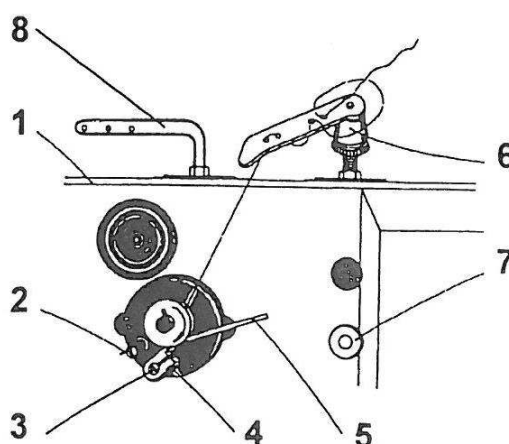
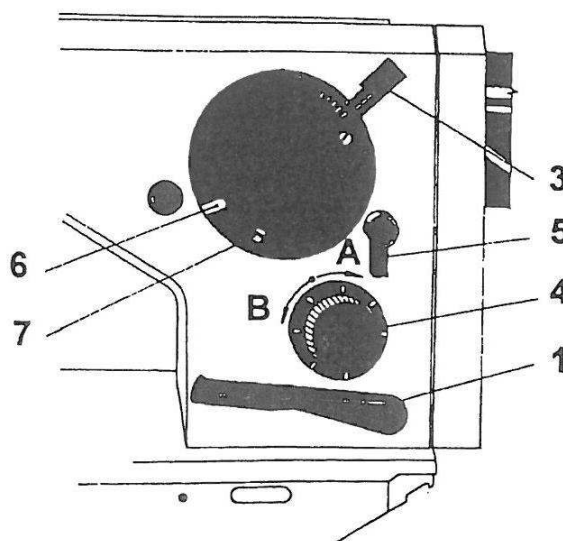
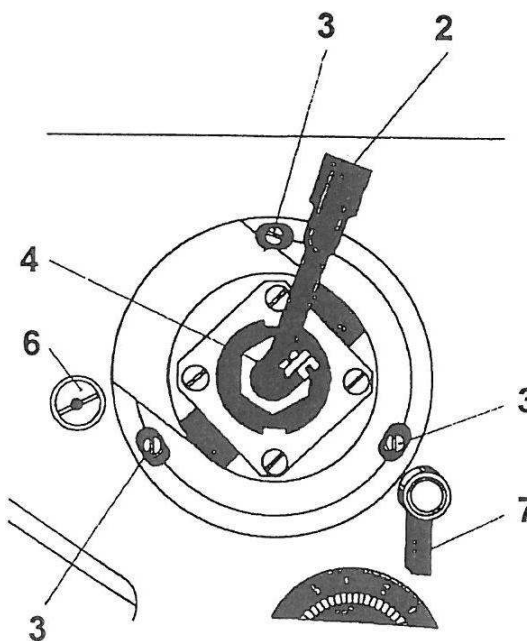

Fig. 6
Fig. 7
Fig. 11
#### 9. To wind the hook bobbin (Fig. 6)
### 1. Stitch length adjustment (Fig. 7)
### 2. To adjust the zigzag stitch width (Fig. 7)
Adjust the zigzag stitch to the zero width and turn the hand wheel until the needle bar with the needle reaches its bottom position. In case of transverse deviation from the central needle position screw out the four attachment screws, remove the upper cover (1, Fig. 6), take the plug (7, Fig. 6) out of the machine arm, loosen the screw (29) located under the upper cover of the machine arm, insert a screwdriver into the hole created by the plug removal, adjust the angular position of the eccentric pin (32) so as to set the needle transversely to the slot centre, retighten the screw (29), insert the plug into its hole, and mount the upper cover. Check the needle punch position at the maximum stitch width and be sure that there is a play between the needle and the slot side in each lateral position of the needle. With zigzag stitch width adjusted at zero, the needle bar with the needle should react with no lateral movement to the hand wheel rotation. If it does react, the basic zero position of the zigzag stitch drive mechanism should be adjusted by an experienced sewing machine mechanic since such adjustment is rather extensive.
#### 19. To adjust the control force required for stepless adjustment of the zigzag stitch width (Figs. 7, 11; Tabs. 6, 7)
For the stepless tilting of the zigzag stitch bracket, the inlay (4, Tab. 6) of the body of the zigzag stitch mechanism contains the braking roller (5) with the spring (6) and with the adjustment screw (7). Turning the screw to the right increases the pressure exerted on the roller and, consequently, the force required to adjust the stitch width. A mechanism actuated by the lever (7, Fig. 11) serving to fix the adjusted stitch width must be turned to the left prior to proceeding to the stitch width adjustment which is carried out by the lever (2) whose extreme left position, defined by a stop, produces the zero zigzag stitch width that can be increased up to 10 mm by displacing the lever to the right. The number marking on the cover (6, Fig. 7) shows the approximative stitch width value at each lever position. To adjust the control force, first take the complete zigzag stitch mechanism out of the machine arm column. For this purpose, screw out the two screws (7) from the body of the mechanism, remove the cover (6), screw out the three attachment screws (3, Fig. 11) from the body of the zigzag stitch mechanism, then screw out the securing screw (37, Tab. 7) on the pin (40), remove the pin from the guiding (43), loosen the fixing lever (51) and take the pin (42) out of engagement, thus releasing the body of the zigzag stitch mechanism that can be then taken out of the machine arm. For the assembly, proceed inversely.
## **20. To adjust the tooth play of the zigzag transmission mechanism (Figs. 6, 11; Tabs. 1, 11, 7)**
The tooth play of the zigzag stitch transmission mechanism is actuated by the eccentric pin (6, Fig. 11). To adjust the tooth play, first screw out the four attachment screws (2, Tab. 1), remove the upper cover (1, Fig. 6), and loosen the screw (4, Tab. 7) located in the lug of the machine arm. By turning then the eccentric pin (6, Fig. 11) adjust the tooth play of the zigzag transmission mechanism, i. e., between the complete cam (9, Tab. 7) and the gear wheel (13, Tab. 11) mounted on the upper shaft (1, Tab. 11), then lock the adjusted position by thoroughly tightening the screw (4, Tab. 7).